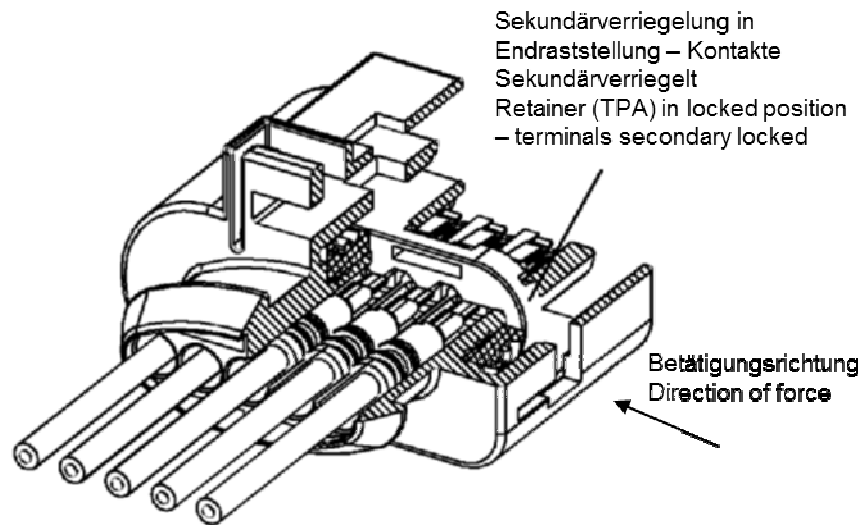

Figure 4: Locking the terminals by the retainer
After all terminals are mounted correctly, the retainer has to be moved from the pre-locked position to the locked position as shown in figure 4. If you assemble by hand you can use a screwdriver to push the retainer. Pushing the retainer in the locked position should be executed carefully and smooth, without too much force.
To plug-in the connector the retainer has to be in locked position (see figure 4). Furthermore the connector has to be aligned correctly, corresponding to the outer shape of the counterpart including eventual available coding (1). Wrong mating is thus excluded. Straight-in engagement is requested (2). When the female connector snaps-in audible into counterpart, the connection is in working condition (3).